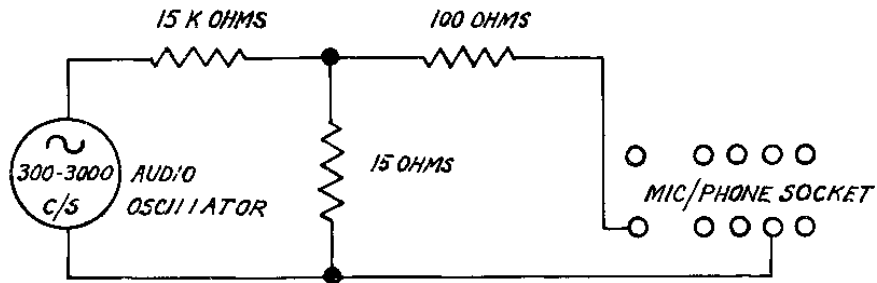

FIG. 21 - MODULATION SENSITIVITY TEST
Modulation Sensitivity (Fig. 21)
- (b) Connect B.F.O. as in Fig. 21.